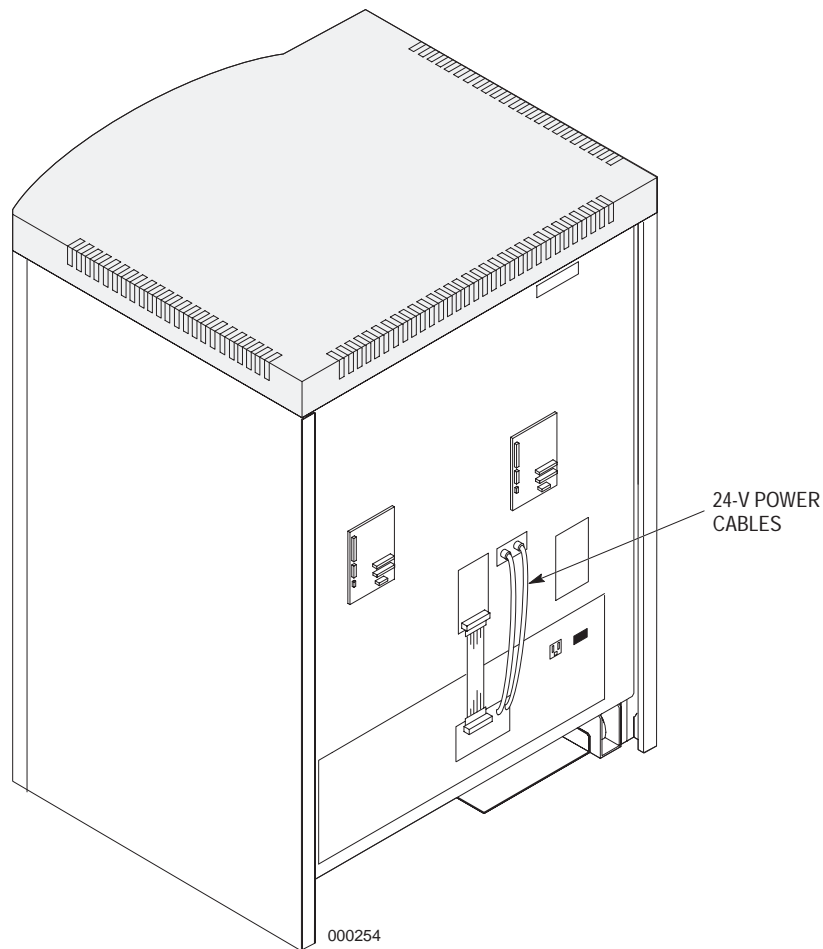

Figure 6-2. Power Connections to the Drive Backplane.
- c. Check the 24-V power cables on the rear of the server to make sure that they are connected correctly to the drive backplane and the main backplane, as shown in Figure 6-2.